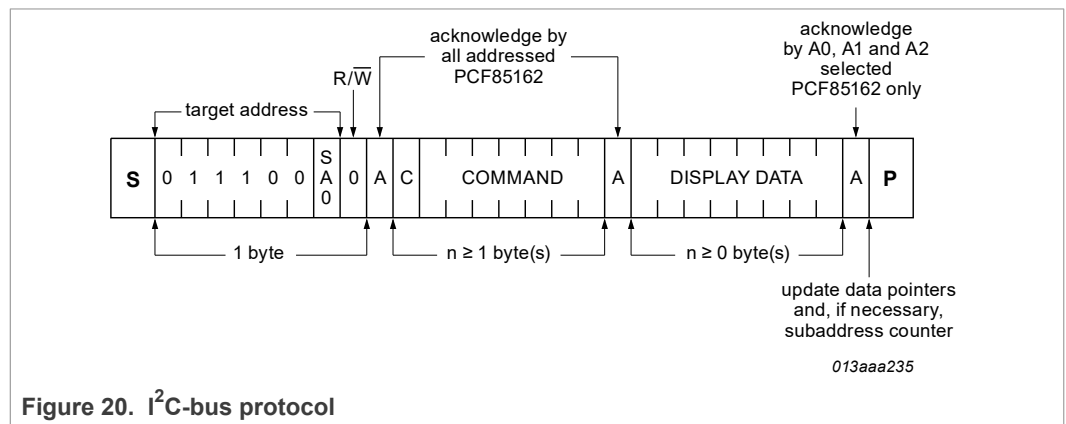

Figure 20. I²C-bus protocol
The I²C-bus protocol is shown in Figure 20. The sequence is initiated with a START condition (S) from the I²C-bus controller which is followed by one of the two possible PCF85162 target addresses available. All PCF85162 whose SA0 inputs correspond to bit 0 of the target address respond by asserting an acknowledge in parallel. This I²C-bus transfer is ignored by all PCF85162 whose SA0 inputs are set to the alternative level.